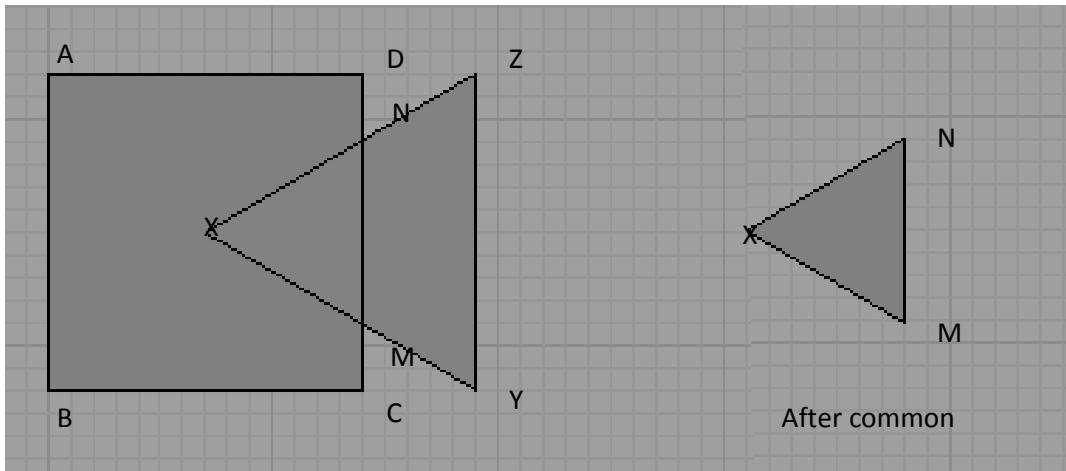

Figure 25. Boolean operation on two overlapping objects.
1. **Common:** This tool is used to find common area of two objects. Let's take an example as shown in Figure 25. ABCD and XYZ are two objects. Faces for both objects have already been found. See section 6.2 for more details for finding a face.
- c. Press **Enter** to remove all parts except the common area XMN (see Figure 25).
2. **Intersect**: This tool is used when overlapping objects are used to intersect each other. For the same example in Figure 25. The intersect operation creates three regions: ABCMXND, XMN, and MYZN. For this,